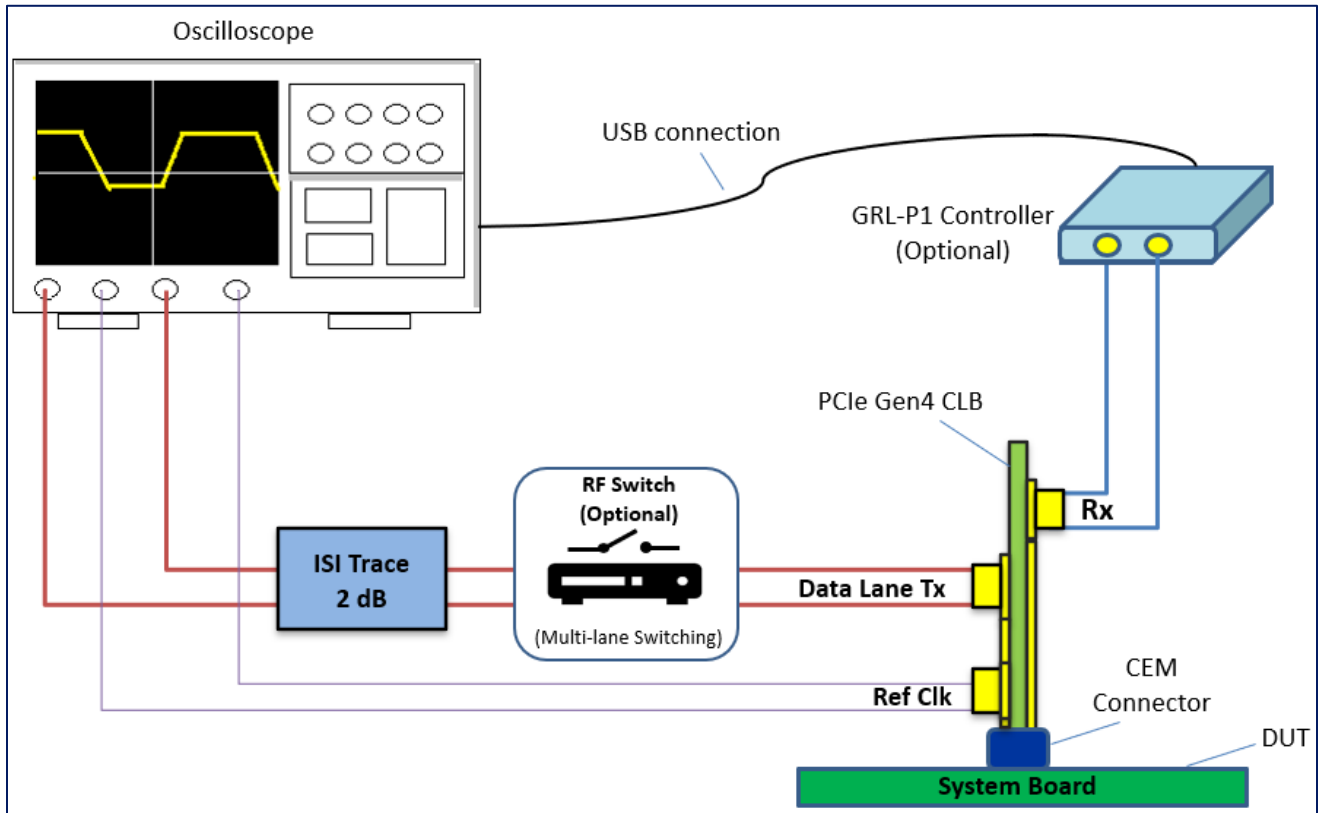

FIGURE 15. CONCEPTUAL PCIe GEN4 SYSTEM BOARD TX TEST SETUP DIAGRAM USING GRL-P1 (WITH RF SWITCH AND ISI)
4. If using ISI, connect a 2 dB ISI in between the RF Switch outputs and Scope channels (Figure 15 below).